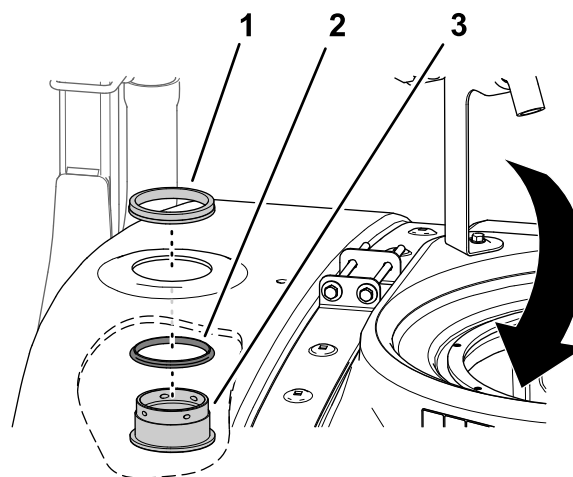

Figure 27
1. Install the seal over the bulkhead fitting (Figure 27).
2. Install the bulkhead fitting and the seal through the hole that you created in Drilling the Tank \(page 14\), from inside the tank (Figure 27).
3. Secure the bulkhead to the tank with the locking ring (Figure 27).